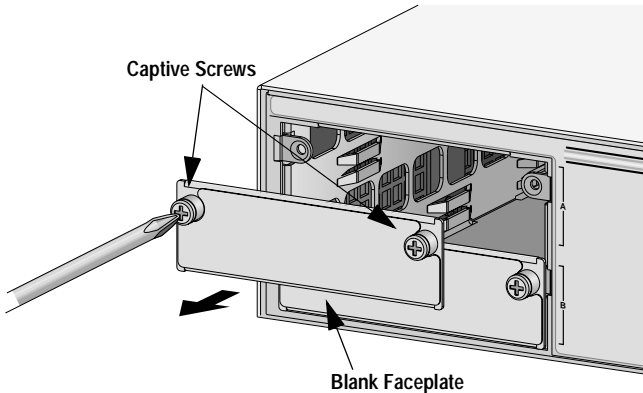

Figure 6 Removing the Blank Panel
2. Remove a blank faceplate from one of the expansion slots by unscrewing the faceplates two captive screws. Refer to Figure 6. **Do not remove the blank faceplate if you are not installing an expansion module into the slot.**